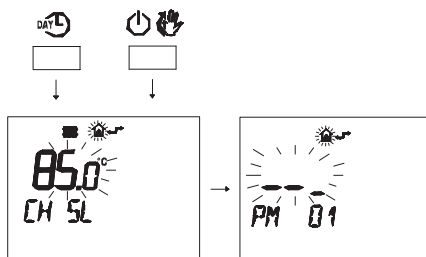

Fig. 8.19
- Press buttons **DAYL** and **POWER** at the same time to enter transparent programming (Fig. 8.19).